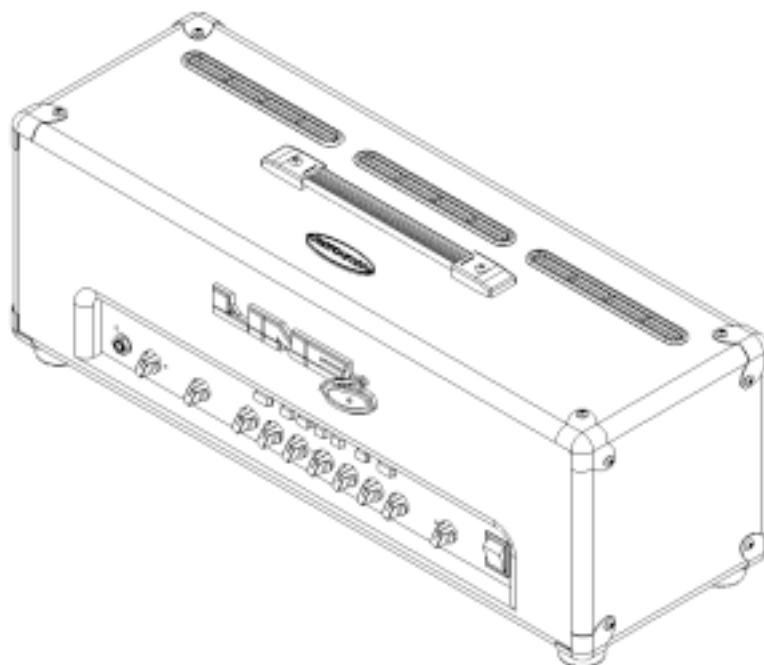

Figure 30
- d. The Flextone II Head is now complete – ROCK ON!!.. See figure 30.